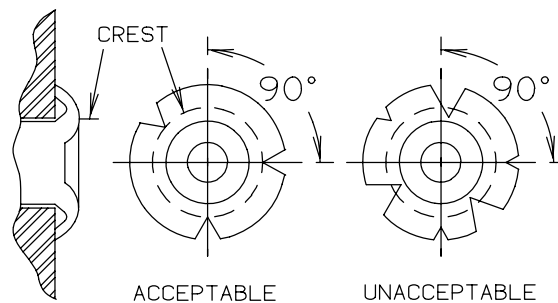

Figure 204 - Rivet / Pin Installation Acceptance Criteria
- g Refer to Figure 204 for rivet / pin installation acceptance criteria.
- 6 With tubular rivets, splits may result from the clinching operation. Refer to rivet sketch, Figure 204, for acceptance criteria.